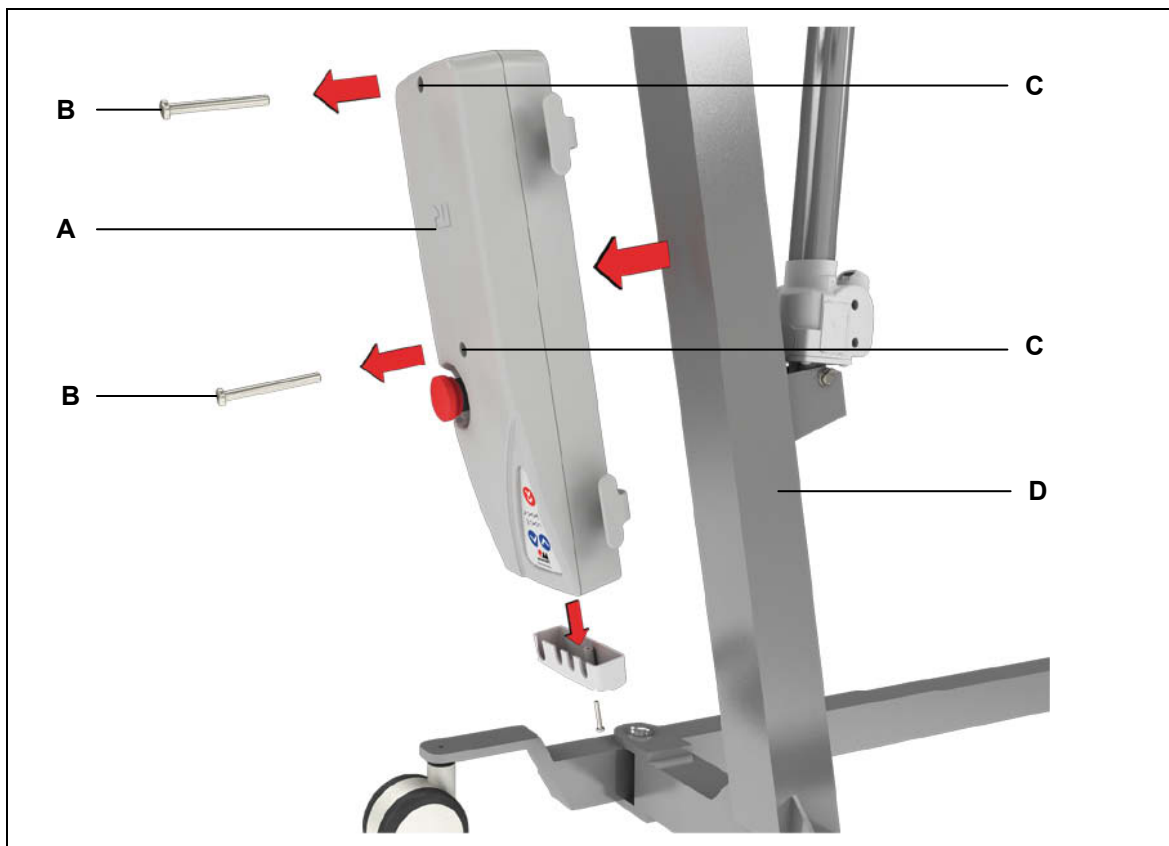

Figure 9 Installation onto the patient lifter (example)
- 2 Screw the *ACCUCONTROL* using the appropriate cylinder head screws (for example: M6x100-8.8 VZ) onto the patient lifter (refer to Figure 9).